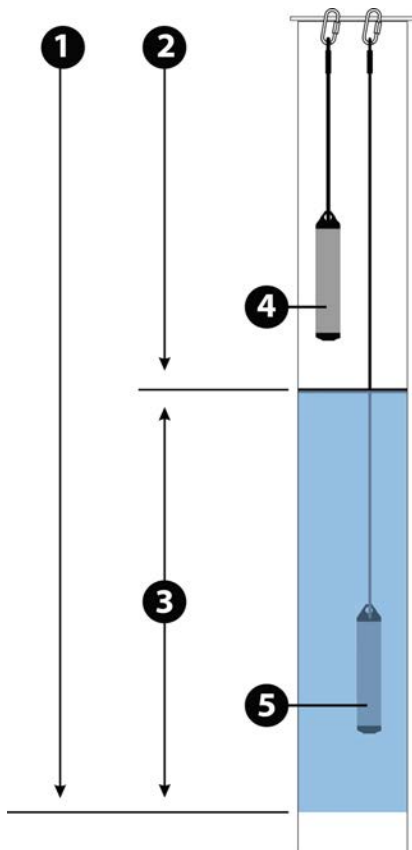

Figure 11.1 Rugged BaroTROLL and Rugged TROLL deployment
4. Disconnect the BaroTROLL, attach the hanger, and deploy it suspended or lying in a protected location above water level near the submerged Rugged TROLL 100 or 200. One possibility is shown in Figure 11.1 .